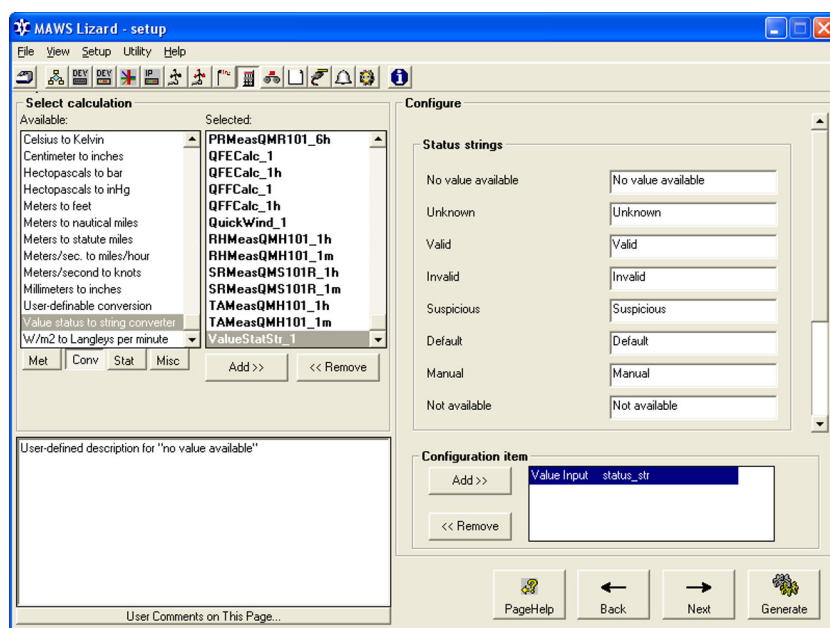

Figure 51 Calculations View: Configuring Status Strings (1/2)
The status conversion component shows the status of the data items in textual format other than the default text, for example, in another language. The textual status can be included, for example, in a report. This component is configured in the **Calculations** view as shown in Figure 51 on page 111.
3. Enter the new status string to replace the default status; see Figure 51 on page 111.